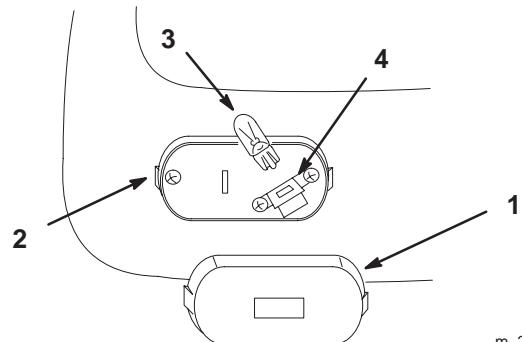

Figure 40
2. Inserting a screwdriver into slot and twist to remove lens (Fig. 40).
1. Align the bulb base with socket and push into position (Fig. 40).
2. Align and snap the lens onto the base (Fig. 40).